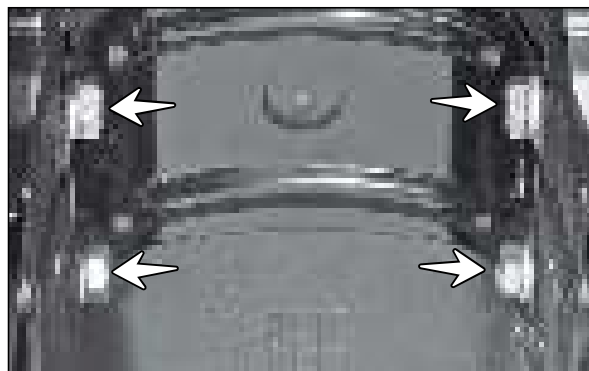

Fig. 6.47
- Remove hexagonal screws (M8x20 - 4 Nos.) along with wave spring washer (4 Nos.) from the fender front mounting. (Fig. 6.47)